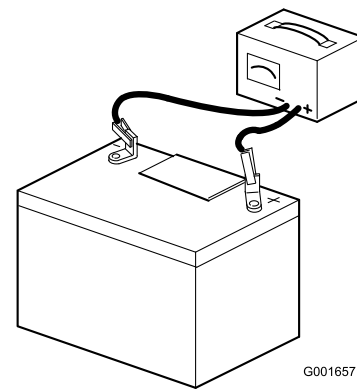

Figure 33
2. Connect a 3 to 4 amp battery charger to the battery posts (Figure 33). Charge the battery at a rate of 3 to 4 amperes for 4 to 8 hours.